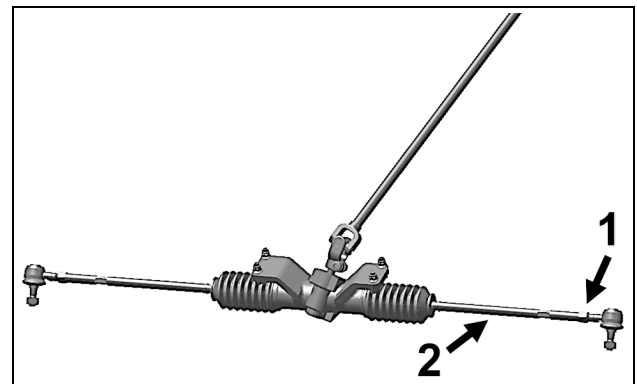

Figure 21
To adjust the SxS's steering system, first loosen coupling rod nut (1), then screw or unscrew the coupling rod (2) an equal number of revolutions on both sides of the vehicle. See Figure 21.
**CAUTION:** Remember that some nuts have reverse threads before loosening a coupling rod nut (1) on the vehicle's steering system. Make sure to unlock the nut in the proper rotational direction.